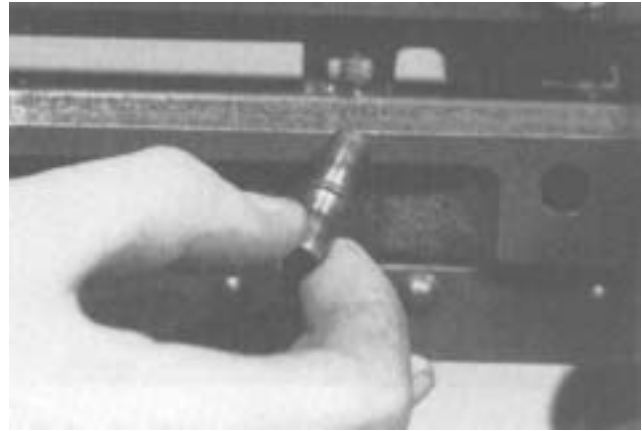

Figure 4-11. Removing the Bolt Stud.
e. Bolt Stud. Grasp the retracting slide handle and give it a quick jerk, freeing the bolt from the barrel extension. Align the shoulder on the bolt stud with the clearance hole in the bolt slot on the right side plate, and remove the bolt stud (see figure 4-11).